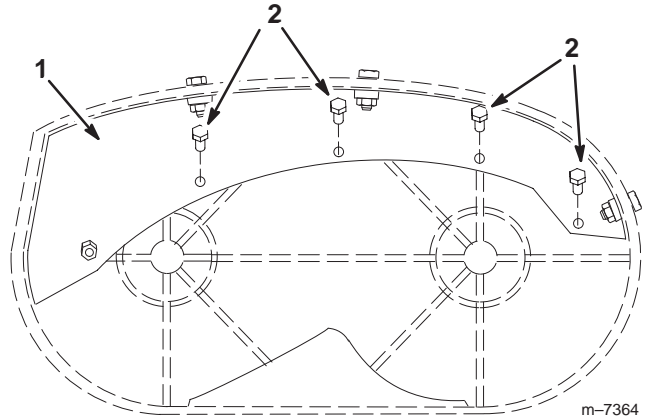

Figure 8
2. Install four bolts (1/4 x 5/8 inch) in the baffle and up through the top of the deck and secure it with four lock nuts (1/4 inch) as shown in Figure 8.